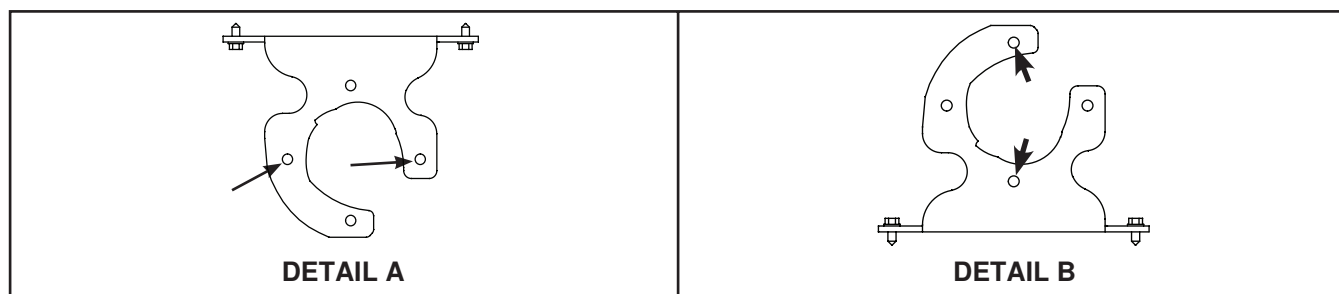

Figure 3. Replacement Mounting Bracket
- (1) Position mounting bracket (2A) in orientation shown in **Figure 3**, DETAIL A and align holes on right side with existing holes.
- (2) Mark and drill two 13/64-inch holes on left side.
- (3) Secure mounting bracket (2A) using four screws (9).
- (1) Position mounting bracket (2A) in orientation shown in **Figure 3**, DETAIL B on motor support installed in step 3 with left side of bracket extended slightly over outer side of motor support.
- (2) Align mounting bracket (2A) holes with motor support weld nuts and secure bracket using four bolts (7).
- b. Align damper motor (1) holes with mounting bracket holes indicated in Figure 3 (DETAIL A for model CAUA or DETAIL B for all models **except** CAUA) and install two capscrews (2C) through bracket and motor.